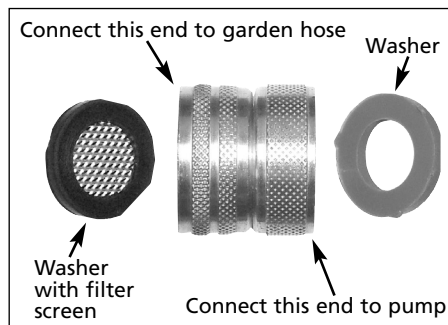
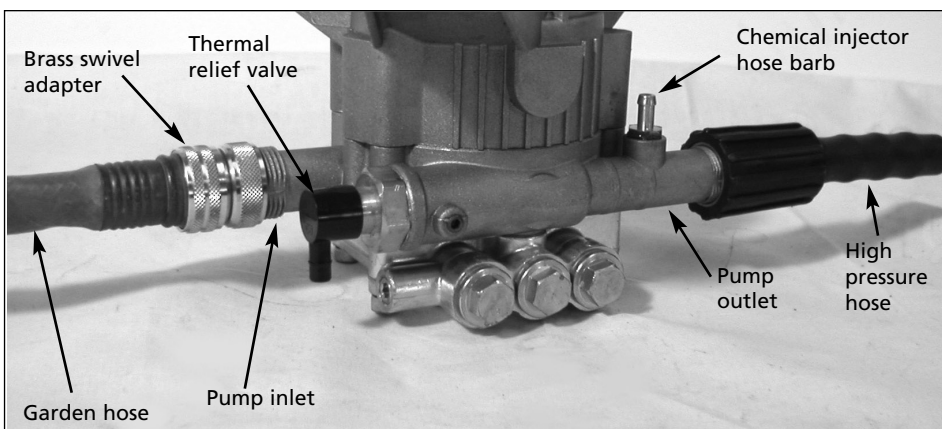
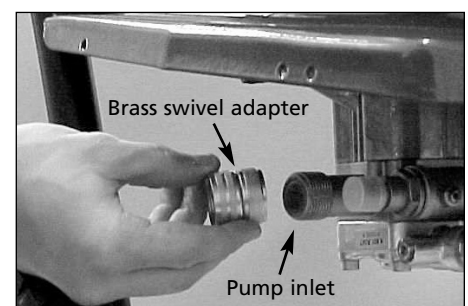

Figure 3 - Brass swivel adaptor
Figure 2 - Pump hook up
Figure 4 - Connect the brass swivel to the pump
2. **Brass Swivel Adaptor** (See Figure 2). If it's not already attached to the pump inlet, assemble the brass swivel adaptor and attach it to the pump inlet (See Figure 3 and Figure 4). Be sure to connect the correct side of the brass swivel adaptor to the pump.
4. Connect the high pressure hose to the pump outlet (See Figures 2 and 5).